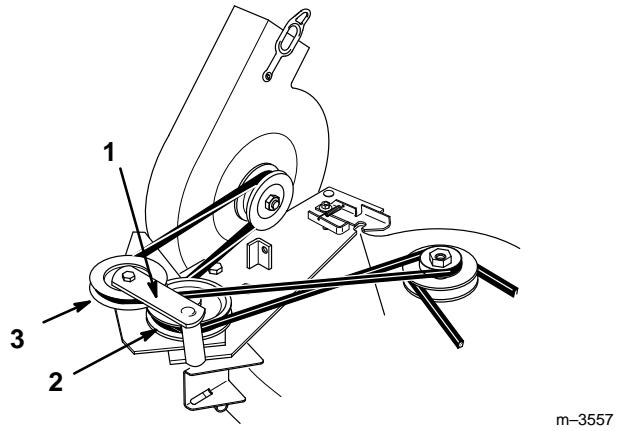

Figure 29
1. Open the latch and swing the blower out away from the mower. Remove the blower belt from idler and blower pulleys (Fig. 29).